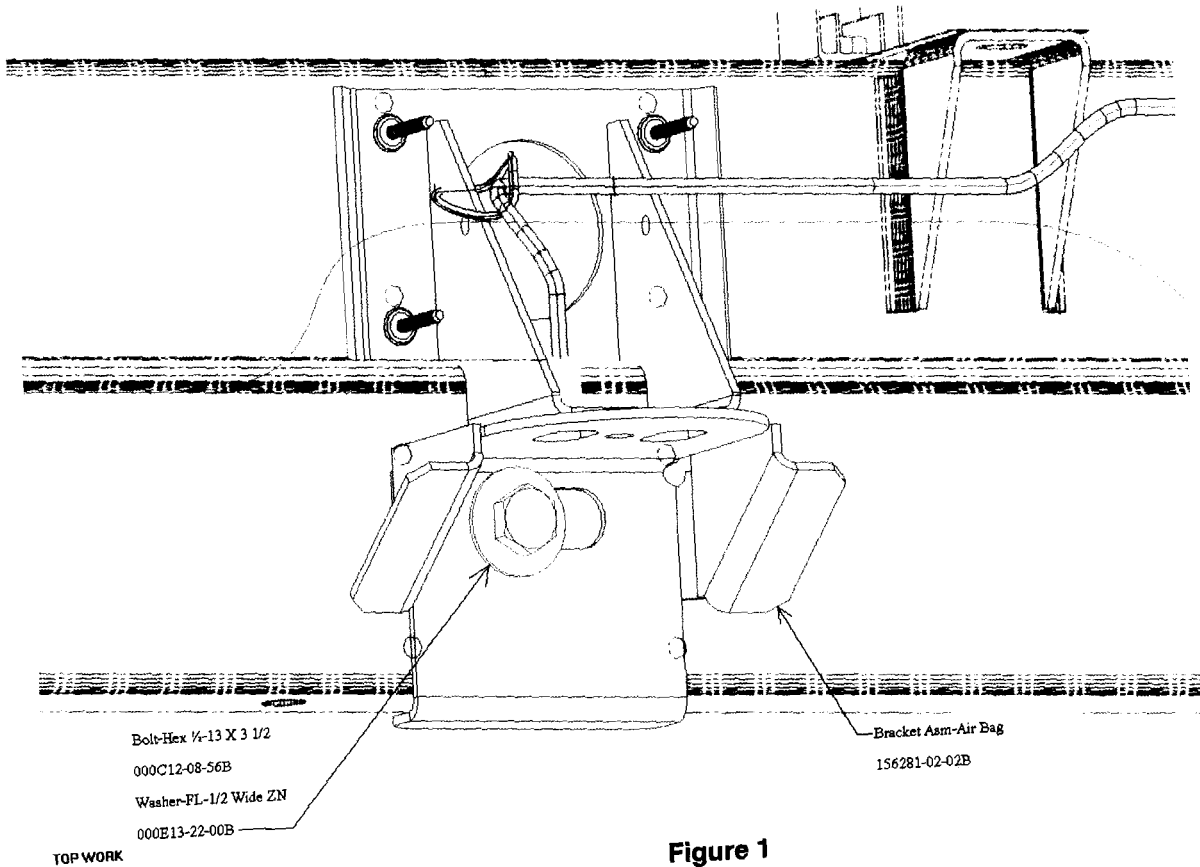
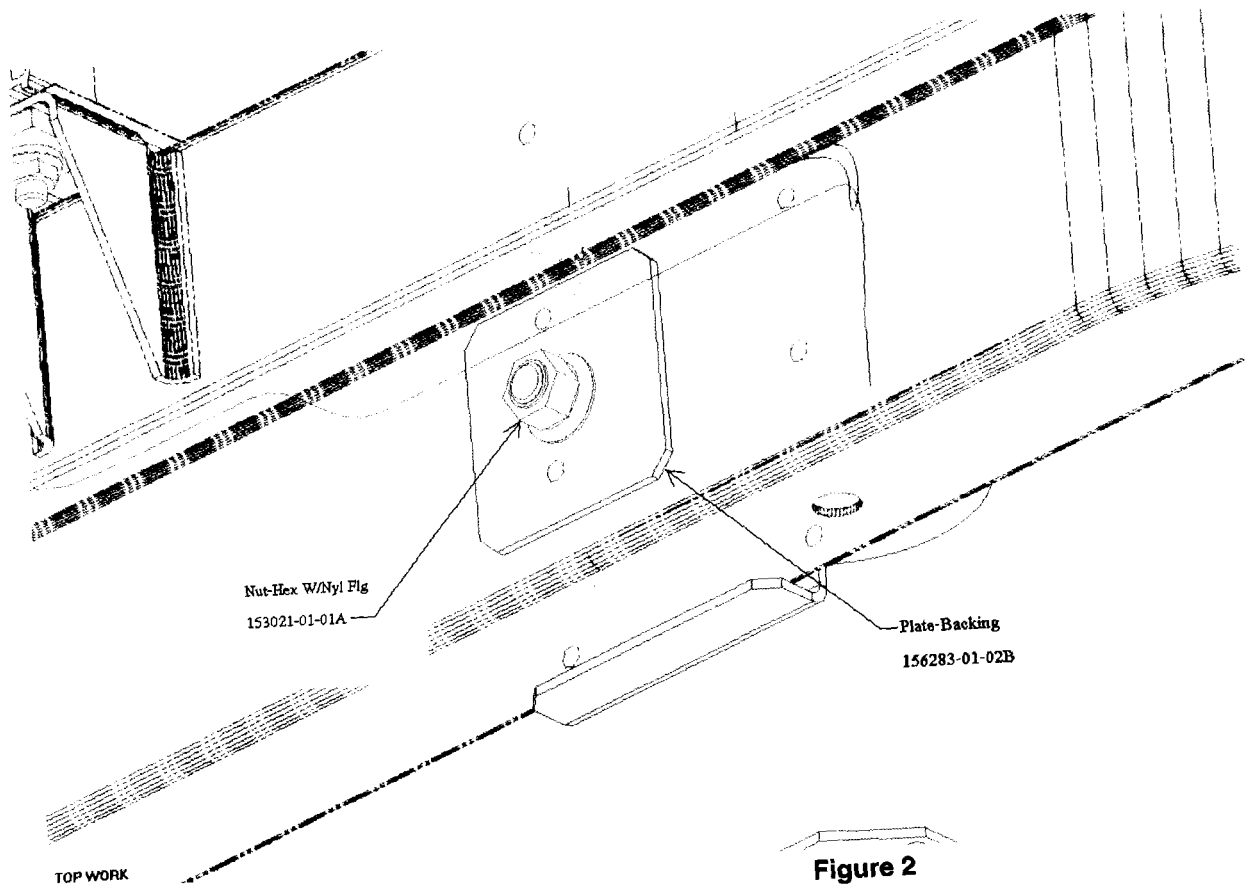

Figure 1
Figure 2
- 6) Install the new Air Bag Bracket 156281-02-02B and Backing Plate 156283-01-02B as shown in photo 9505 and 9506 at right and in Figure 1 and Figure 2 on page 4. The bolt will pass through an existing 1/2" hole in the frame rail.